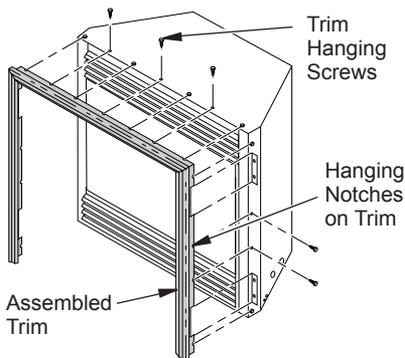

Figure 7 - Attaching Perimeter Trim to Fireplace
8. Tighten trim hanging screws (#10 x 6.25 shoulder) into holes in cabinets. Place the assembled trim onto fireplace cabinet. Align hanging notches on trim with hanging screws on side of fireplace (see Figure 7). Push trim firmly into place, sliding hanging notches over hanging screws.
- Install trim after final finishing and/or painting of wall (see Figure 7, page 9).